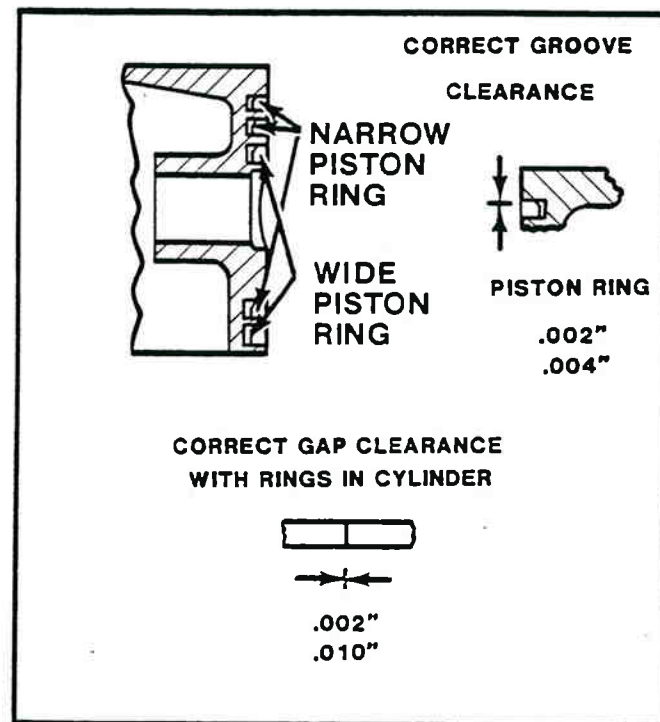

Figure 4-11. Piston Fits and Tolerances.
4. Check fit of piston rings in piston ring grooves. Check ring gap with rings installed in cylinder bores. Refer to figure 4-11 for correct gap and groove clearance.